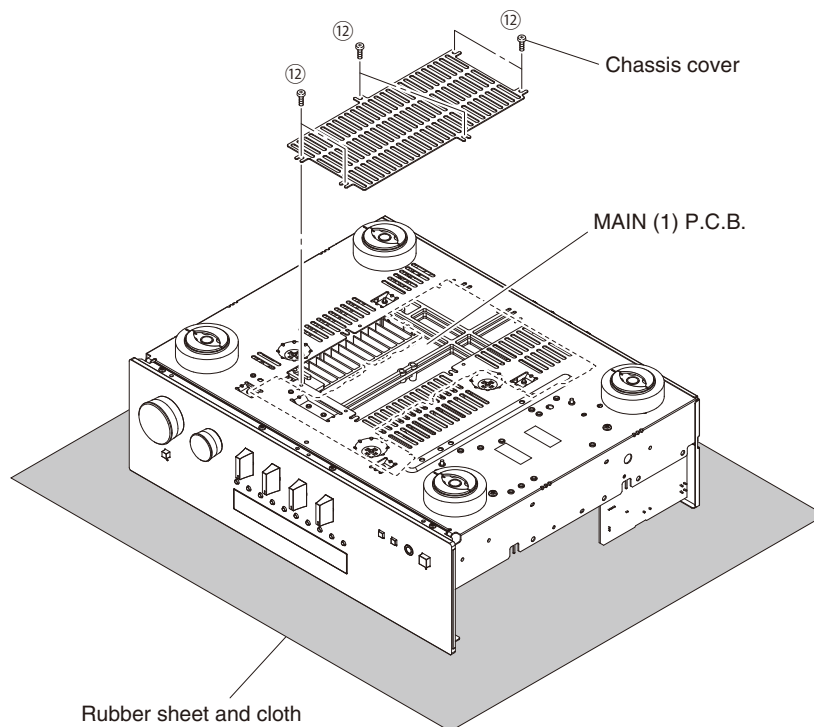

Fig. 5
- Spread the rubber sheet and the cloth. Then place this unit upside down. (Fig. 5)
- Remove 6 screws (12) and then remove the chassis cover. (Fig. 5)